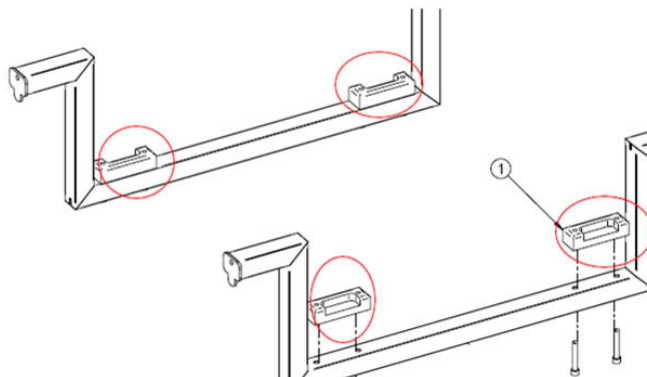

Figure 9
2. Lower the bed, until the lower fixed frame is completely supported by the U-shaped pieces of the fixture (see Figure 9).
7. Using a 1/2" combination wrench, remove the two bolts (D), two washers (C) and two shoulder spacers (B) holding the molded nut support to the elevation lever arm.
8. Using a 5/16" socket, remove the two screws (E) holding the actuator support cover (G) to the head lever arm and remove it.
9. Remove the two pivot pins (H) holding the motor (A) to the support. To ease the removal of the pins, insert a small regular screwdriver into the opening at the end of the motor and push out the pins.
10. Using a #2 Phillips screwdriver, remove the two screws (F) holding the plastic screw cover (J) to the motor. Remove the plastic screw cover and install it on the new actuator.
2. Lower the bed, until the lower fixed frame is completely supported by the U-shaped pieces of the fixture (see Figure 9, page 1-46).
9. Using a 1/2" combination wrench, remove the two bolts (D), two washers (C) and two spacers (B) holding the molded nut support to the elevation lever arm.
11. Remove the two pivot pins (H) holding the motor (A) to the support. To ease the removal of the pins, insert a small regular screwdriver into the opening at the end of the motor and push out the pins.